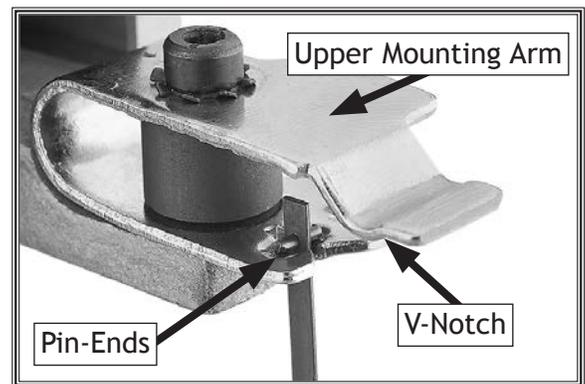

Figure 28. Upper blade mounting arm.
5. Push down on upper blade mounting arm shown in **Figure 28**, slide blade out of upper and lower mounting arms, and then remove blade.
8. Push upper blade mounting arm down, then slide upper pin-ends onto V-notch of the blade holder, as shown in **Figure 28**.